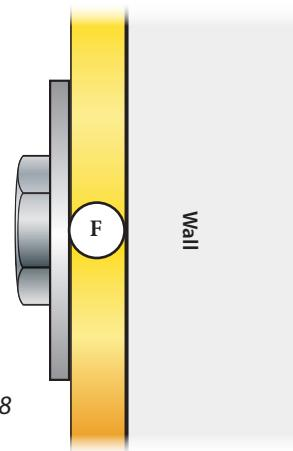

FIG. 8
8 Tighten these four fasteners to secure the Wall Bracket (F) to the wall [FIG. 8].